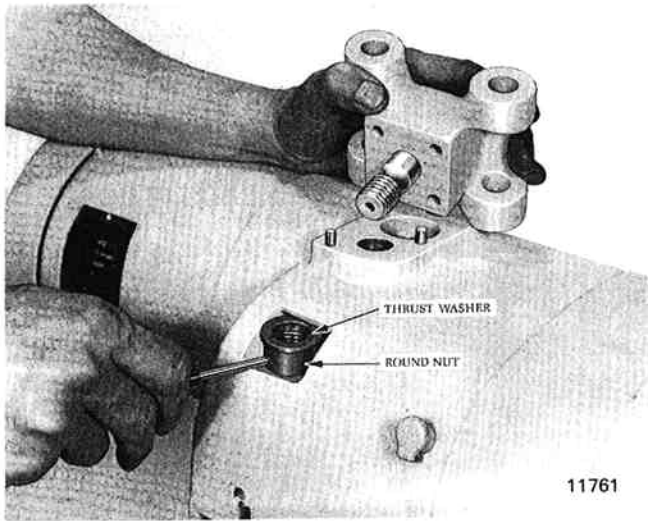

Figure 7-20. Removing Suspension Lug (1/4 Thru 1 Ton Model).
(1) On 1/4 thru 1 ton models drive grooved pin from the round nut inside the hoist frame. Hold round nut from rotating with drift punch thru access hole in side of hoist frame. Unscrew suspension stud assembly by wrenching hex on top of suspension lug (see fig. 7-20).
(2) On 2 ton models, remove three hex socket head screws securing the two lock plates to block at top of frame and pull out locks. Remove suspension lug, using an extra thin 1-1/4" open end wrench to unscrew suspension bushing from block. Instructions for removing block from frame are given in paragraph b. (2).
(3) On 3 ton models lug bolt is removed in same manner as hook. See paragraph 7-3. b. (3).